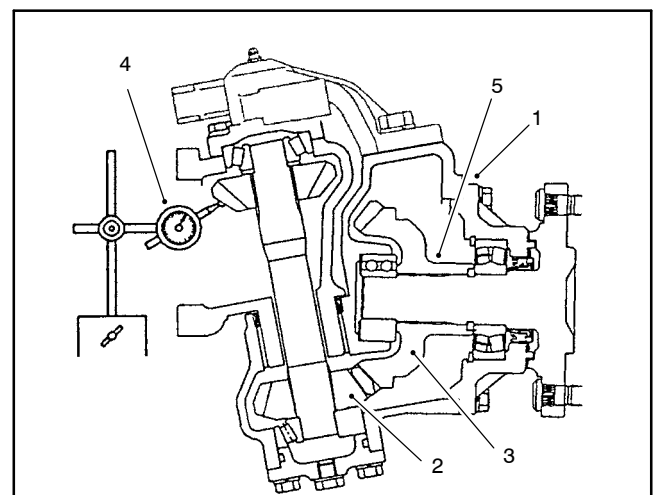

Figure 20
9. Remove the bevel gear case/axle case assembly from the axle support. Coat a new O-ring with grease and temporarily install the axle cover assembly. Position a dial indicator at the teeth center. Prevent the axle from turning and measure the lower bevel gear to axle gear backlash (Fig. 20).